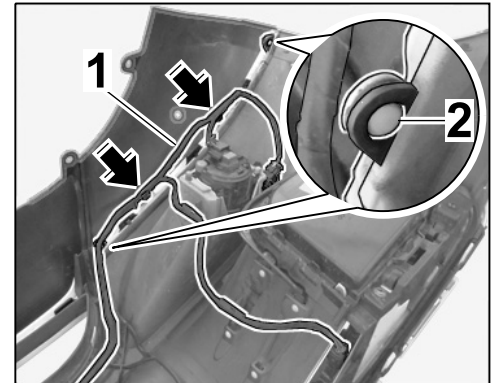

Figure 4
1.3.1 Remove fixing clips (2 x ⇒ Figure 4 -Arrows-) from wire harness in front apron (left/right).
1.3.2 Release and unclip two expansion rivets on the front apron (at the left ⇒ Figure 4 -inset-/right).